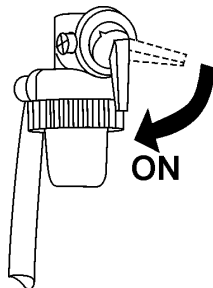

Figure 12. Engine Fuel Valve Lever (ON)
1. Place the engine fuel valve lever (Figure 12) in the **ON** position.